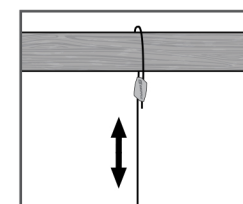

FIGURE 12: ADJUST HEIGHT
9. Adjust height. (See figure 12).